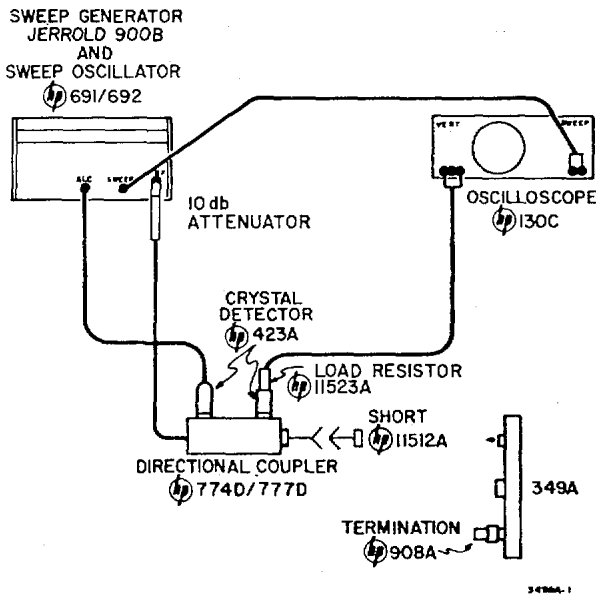

Figure 5-5. SWR Indication
- a. Set up test equipment as shown in Figure 5-5. Note: It is important that the front panel connectors be free of dust, dirt, and any other foreign matter.